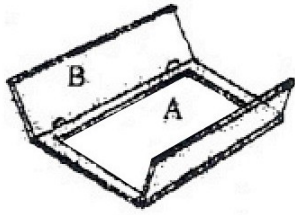

Figure 2
2. **Installing the Front side Panels (B):** Insert the right and left front side panels (B) into the grooves of face frame (A) and align the cam lock connectors (Figure 2). Lock the cam lock with a screwdriver by turning the screw 180° degrees clock .